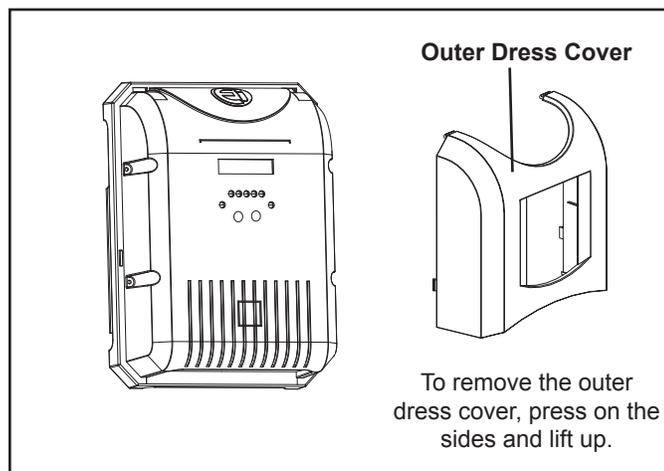

Figure 2. Power Pack Installed
2. Detach the outer dress cover from the power pack by pressing on each of the sides and lifting up (see Figure 2).
3. Detach the outer dress cover from the power pack by pressing on each of the sides and lifting up (see Figure 2).